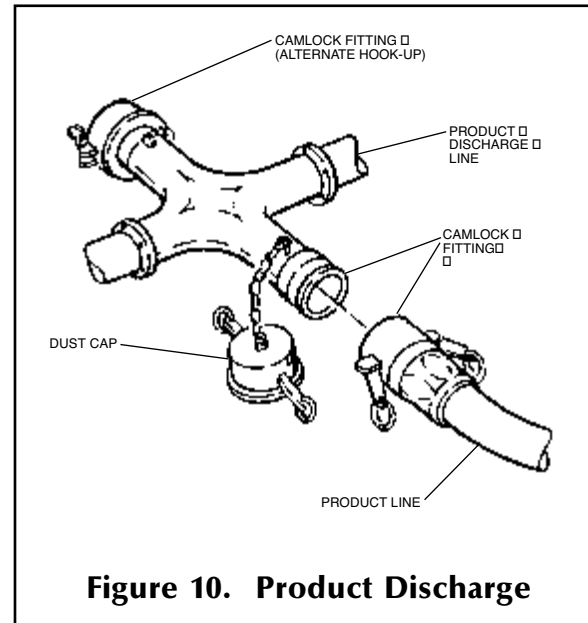

Figure 10. Product Discharge
2. Remove dust cap from product discharge line on car and connect product line (See Figure 10).